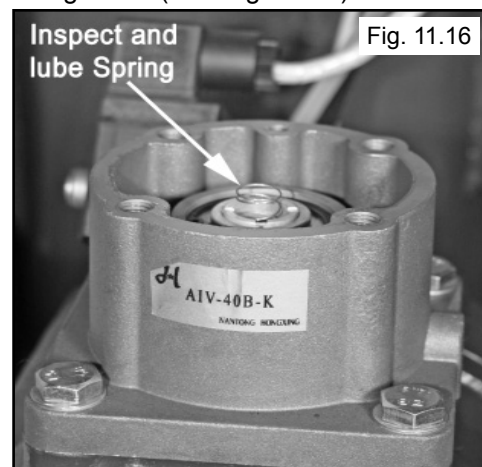

Fig. 11.16
5. Lubricate Valve and Valve Spring with high temperature grease. (See Fig. 11.16)